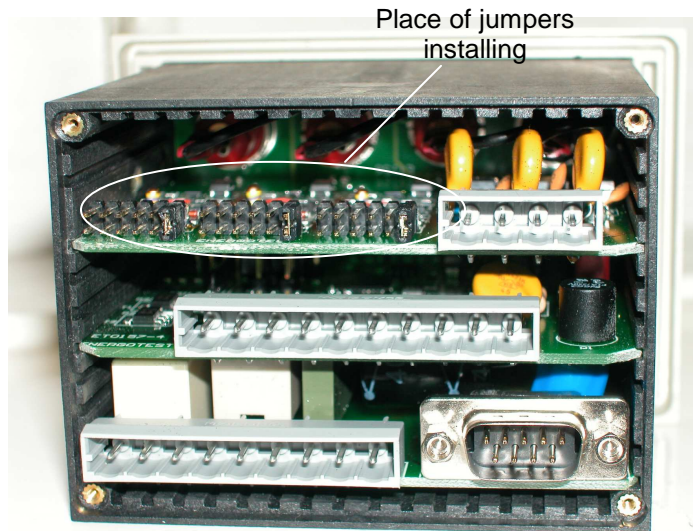

Fig.6 A view of jumpers after removing the rear board of PB relay
- change the positions of jumpers – see the fig. 6,